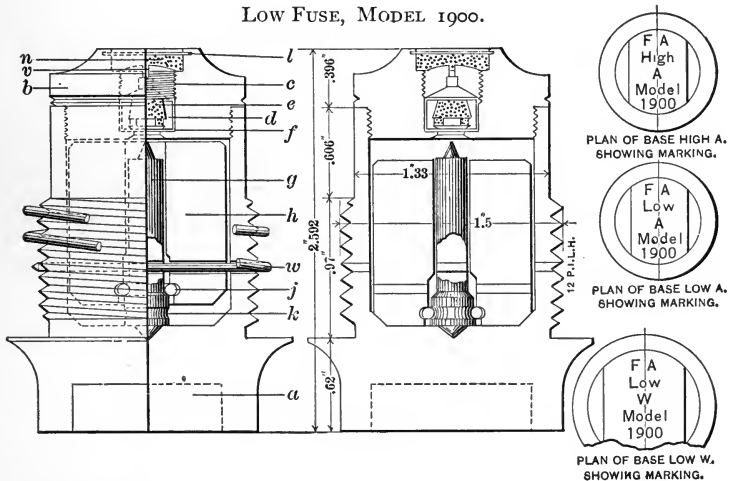

FIG. 39.
A. A high-resistance fuse is one that requires a high initial velocity to cause the plunger to be released, and is therefore safer in handling. A low-resistance fuse does not require such a high initial velocity to cause it to act. Low-resistance fuses are provided with "safety-wires." (See Fig. 39.)
A. On firing, the plunger-sleeve is forced to the rear and remains in this position during flight. On striking, the plunger and plunger-sleeve are forced forward and the prick-point of the plunger strikes the fulminate of the fuse; this ignites the priming charge in the fuse, which ignites the charge in the shell (Fig. 39).